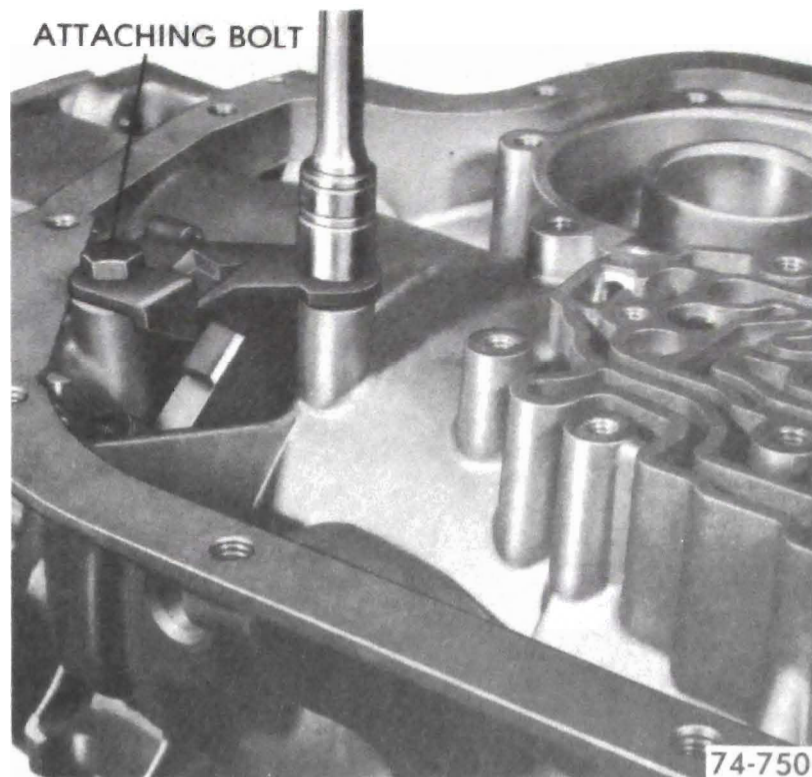

Figure 76-245
5. Install the parking lock bracket, guides over parking pawl, using two attaching bolts torque to 15-20 lb.ft. See Figure 76-245.